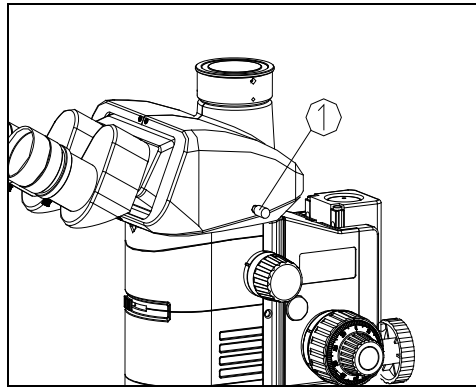

Fig.22
3. When the light path selection lever (1) is pushed in, all the light will enter the binocular head, which can be used for binocular observation. (See Fig. 22)